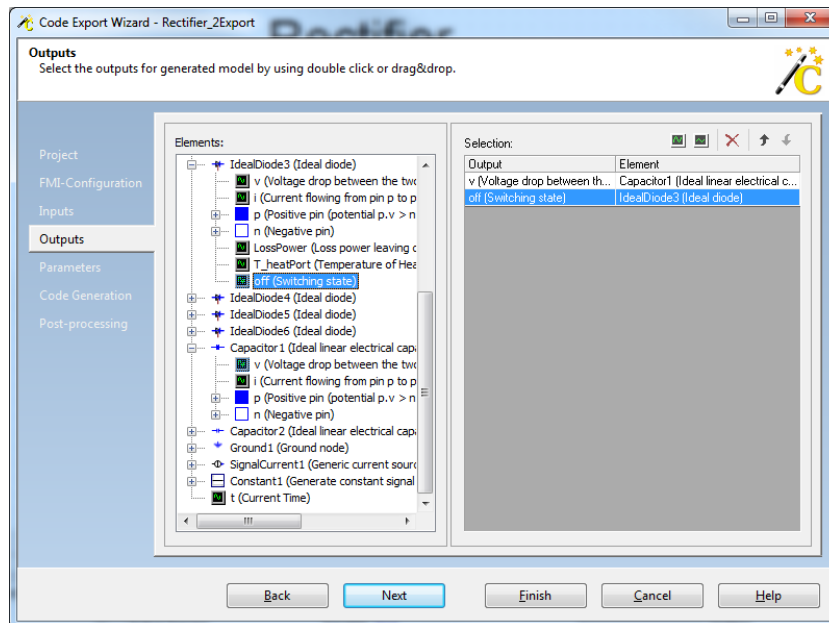

Figure 3: Outputs page of Code Export Wizard.
11. The output property window looks similar to the input property window and allows you to define outputs of the exported FMU. Choose the parameter “v” of the element “Capacitor1” and “off” of “IdealDiode3” (compare to Figure 3). Click “Next”.